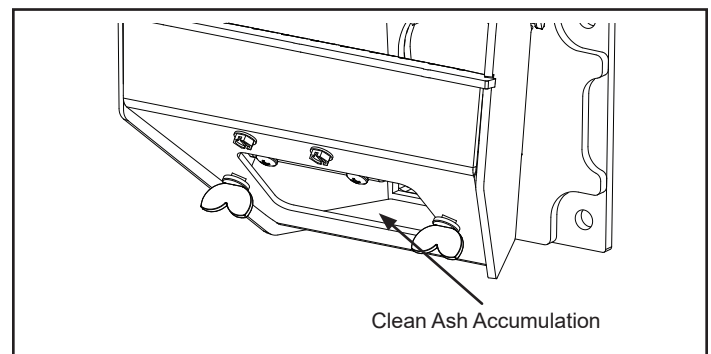

Figure 2.8
- Lift off the clean-out cover to open the bottom clean-out chamber. Figure 2.8